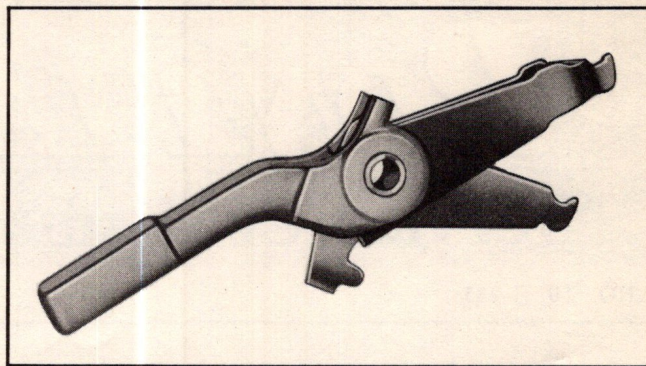

Fig. 3 Rocker Arm, Links and Spacer Assembly
- a. Assemble link spacer over fuel link (see Fig. 3 for correct assembly of rocker arm, links and spacer).